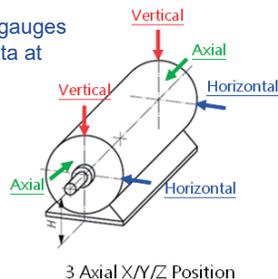

Figure 1
- Take Z-axis readings (Fig.1)